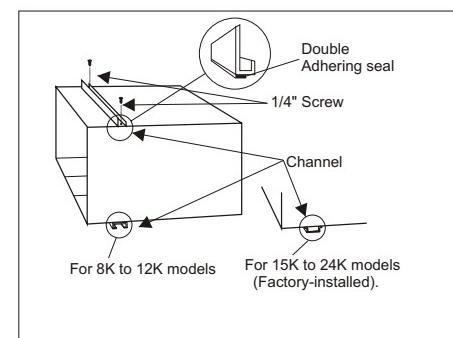

Fig. 3
- A. "L" Shaped Top Channel: Stick the double adhering seal to the "L" shaped top channel, and then Install the "L" shaped top channel to the cabinet as shown in (Fig. 3) using (5) 1/4" screws.
B. "n" Shaped Bottom Channel installed as shown in (Fig. 3) using (4) 1/4" screws.